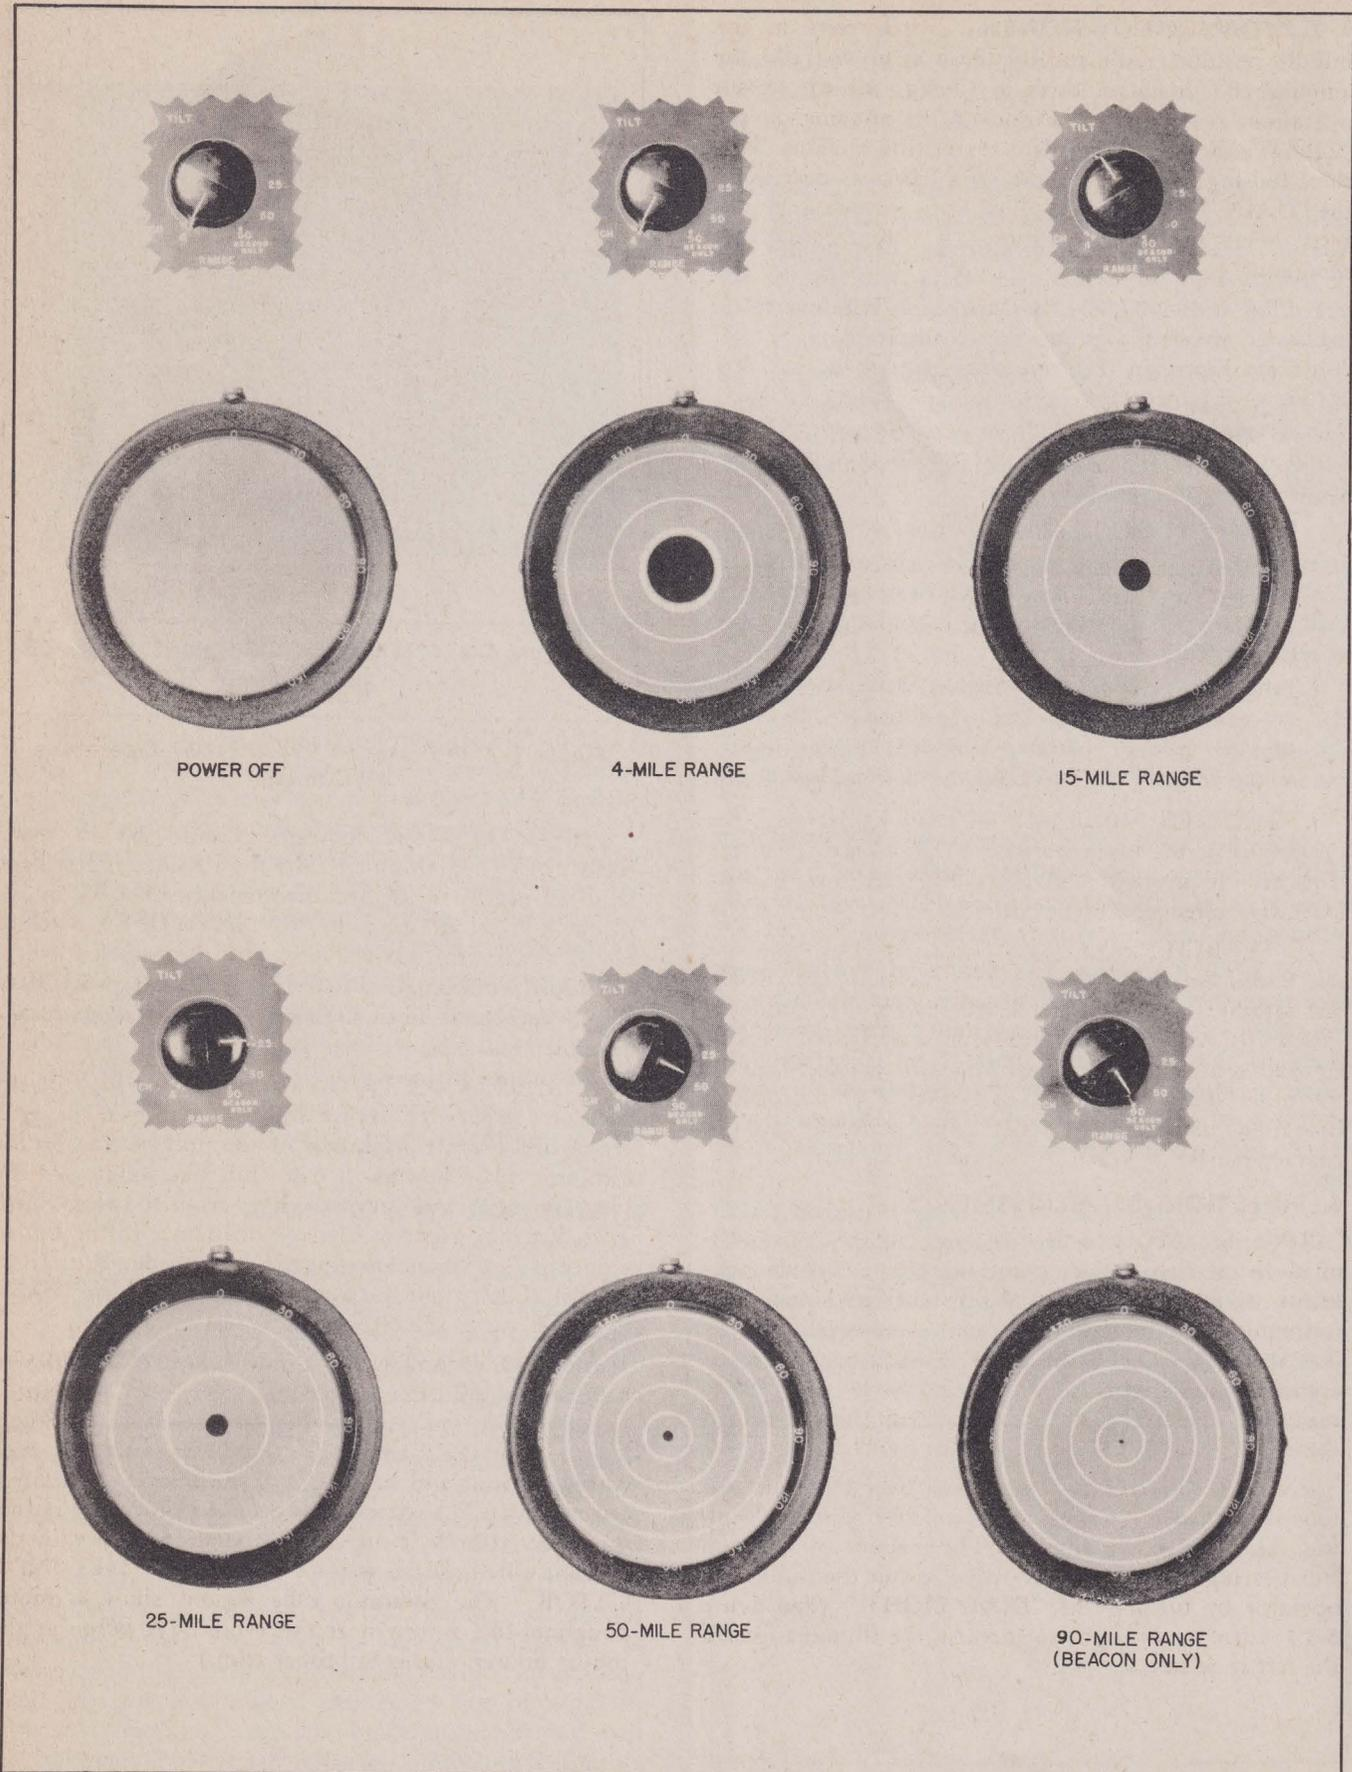

Figure 5-4. Comparison of Ranges
e. "RANGE NAUTICAL MILES."—This control is calibrated in nautical miles and controls the radius of coverage shown on the indicator. Turn it to the right for increasing the range. Turn it back for closer coverage. The circular range marks on the indicator tube expand automatically as the range is shortened. (See figure 5-4 for comparison of ranges.)